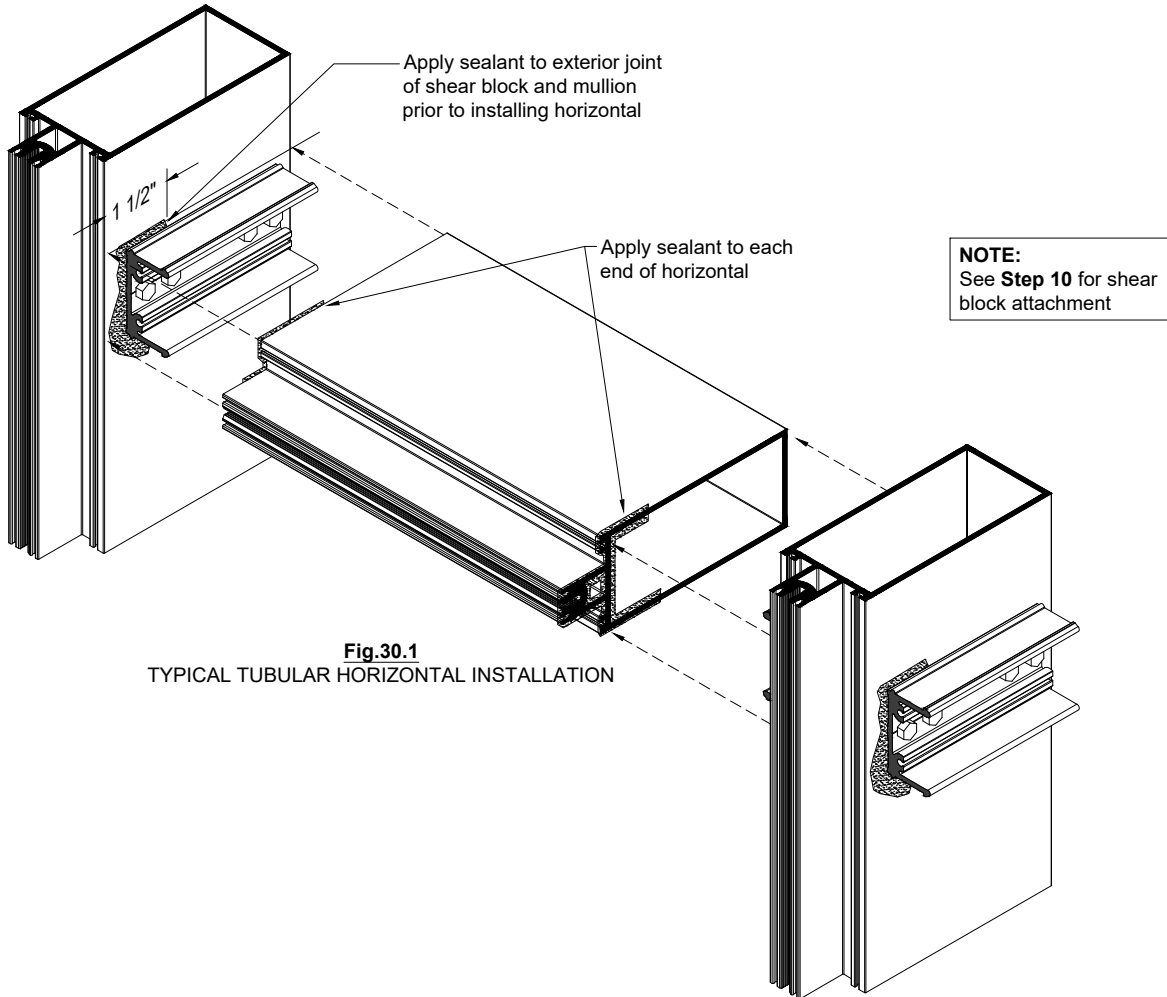

Fig.30.1
- A. Seal shear block prior to installing the horizontal member. See **Fig.30.1**.